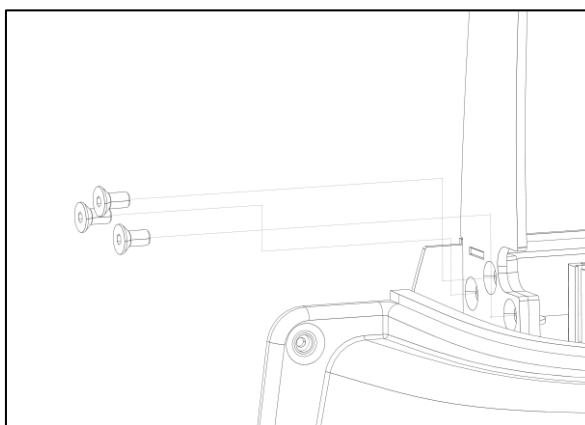

Fig. 7
5. Fasten the 3-counter sunk M8 x 16 screws (Fig. 7).